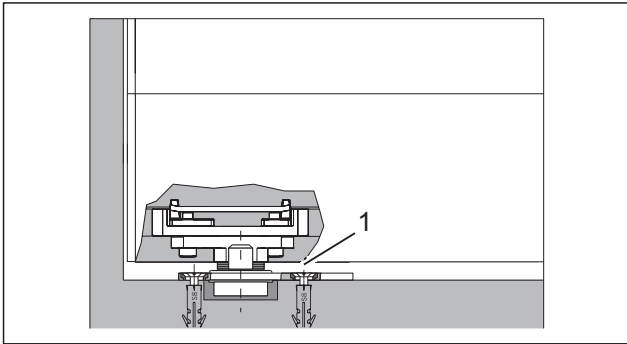

Fig. 48 Loosening the floor pivot
12. Loosen floor pivot (Fig. 48/1) with a Phillips screwdriver and remove.